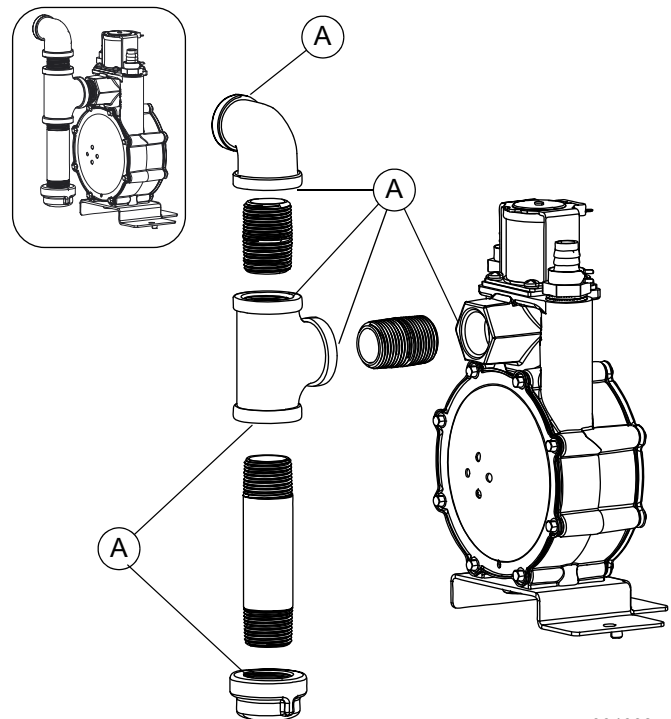

Figure 4-11. Connection Points to Leak Check
See Figure 4-11. Perform a final fuel system leak test after generator installation. The test will identify possible leaks at all connection points (A).